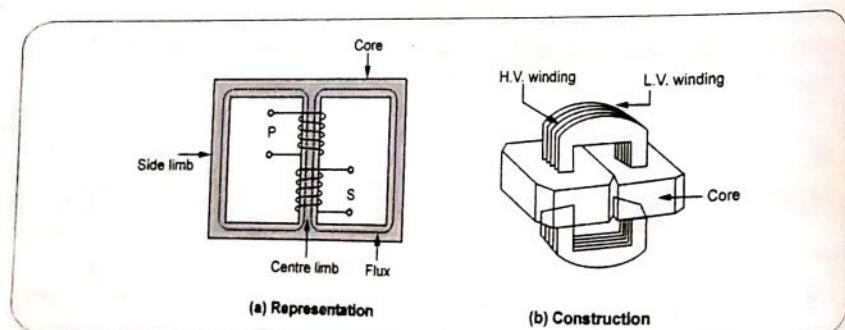

Fig. 5.4.2 Shell type transformer
- The Fig. 5.4.2 (a) shows the schematic representation while the Fig. 5.4.2 (b) shows the outway view of the construction of the shell type transformer.